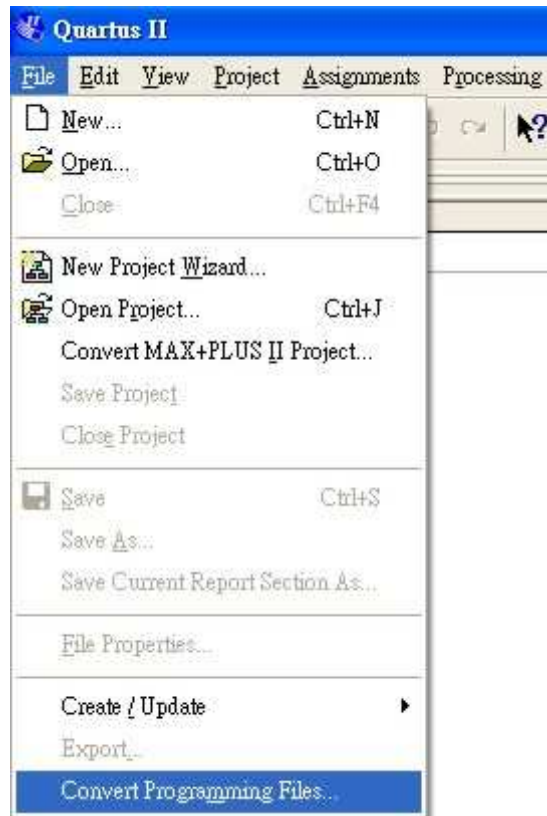

Figure 4.5. Open the menu for Converting Programming Files
1. It will create a SOF file (New_Flash.sof) for user to program FPGA. To program the active serial device, you need to convert programming file to POF format. Figure 4.5 shows the Convert Programming File menu.